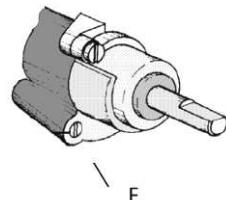

Fig. 3
e) **Flame reduction adjustment (fig. 3)**
- When switching **from LPG to the natural gas** the fine adjustment screw F(**fig. 3**) should be turned counterclockwise with use of small screwdriver until obtaining the required flame power.
- When switching **from the natural gas to LPG** the fine adjustment screw F (**fig. 3**) should be turned clockwise with use of small screwdriver until obtaining the required flame power.